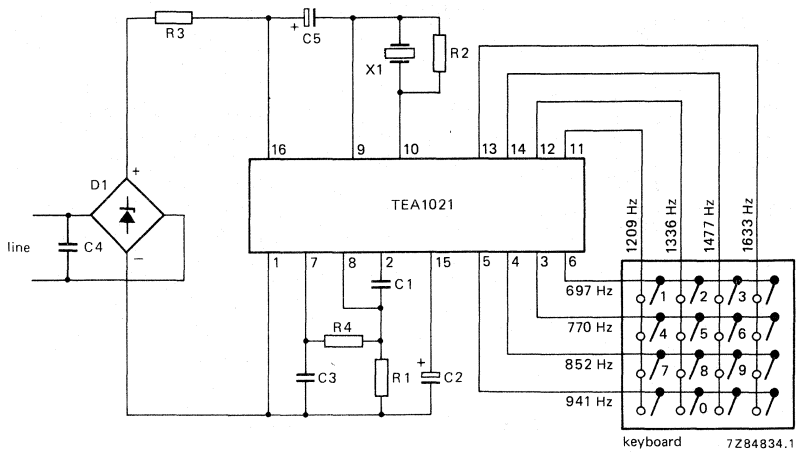
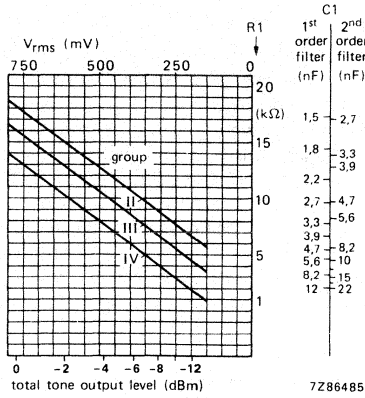
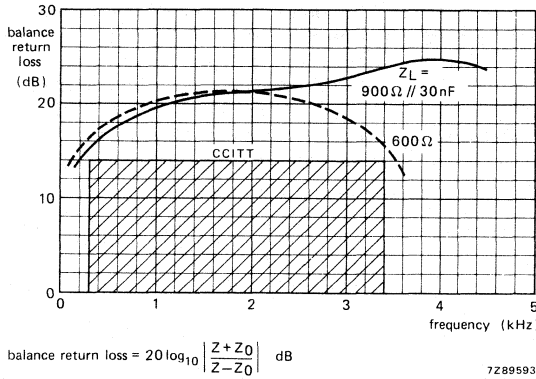

Fig. 4 Application diagram with second-order filter to minimize harmonic distortion (meets CEPT CS203 requirements).
Fig. 7 Level adjustment (see Figs 3 and 4).
Fig. 8 Balance return loss measured with external components as in Fig. 4.
APPLICATION (see Fig. 4)
If there is an impedance match between the lines and the dialling circuit, the balance return loss will be high and reflections on the line will be highly damped. Figure 8 shows that the balance return loss when using the application diagram as shown in Fig. 4 is more than 14 dB. The variation of balance return loss with the frequency is largely caused by an impedance variation due to the low-pass filter capacitor (C2) and the radio-frequency interference filter capacitor C4. Since the highest line impedance that is likely to be encountered is 900 Ω the internal impedance of the dialling circuit is set at this level and can be reduced to match lower impedance lines by adding an external resistor between pins 1 and 16. If direct current must be eliminated a capacitor must be connected in series with the resistor.
The level of the higher-frequency tone however is always $2 \pm 0,7$ dB above that of the lower-frequency tone. The total production of the circuits is therefore divided into groups. The group to which any of the integrated circuits belongs is identified by dots on the body of the circuit, the number of dots corresponding with the group number. The combined tone output level is shown as a function of resistor value with group number as a parameter in Fig. 7. After the resistor value has been selected to obtain the required tone output level, the value of the filter capacitor connected to the same pin must be determined. For passive first-order filters (Fig. 4) the time-constant (RC) must be 26 μ s. For active second-order filters it must be 46 μ s. These values accommodate the different attenuation levels for the various tone frequencies due to the 0,3 dB hump at the breakpoint of the filters.